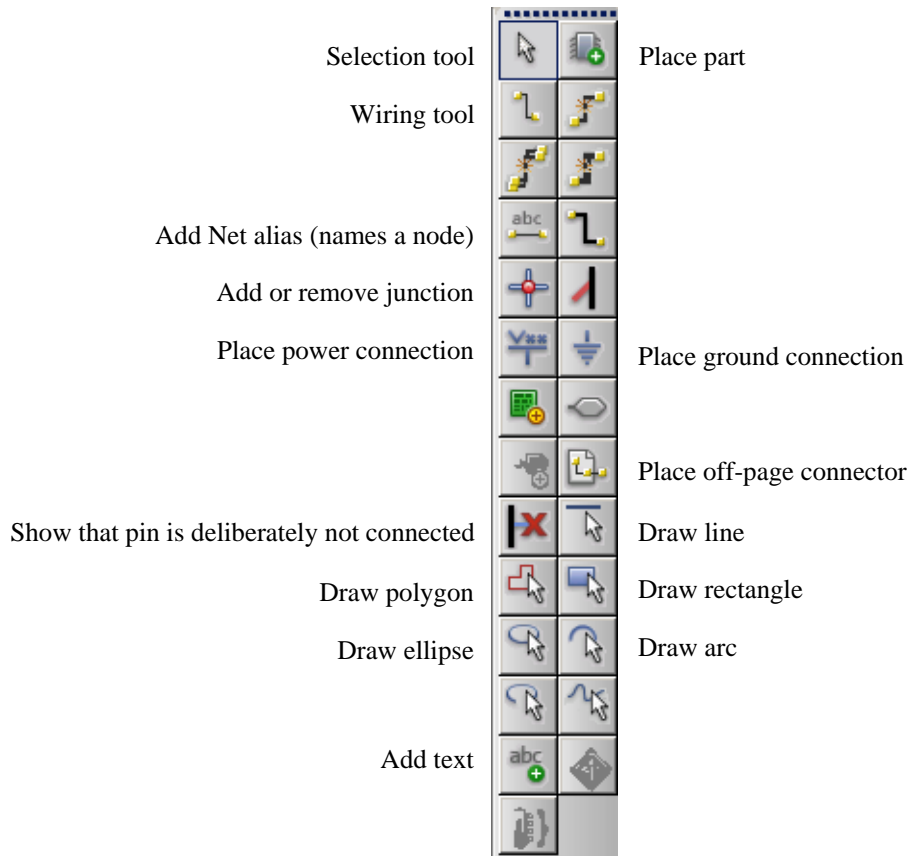

Figure 6. Draw toolbar for Schematic window in Capture with labels for the most important buttons.
3. The Draw toolbar, down the right-hand side of the screen, is for drawing circuits and is shown only when a Schematic window is active. The most important buttons are labelled in figure 6 on the following page.